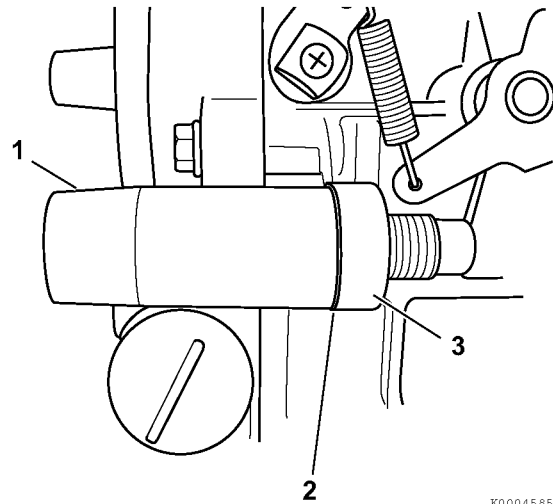

Figure 7-27
13. Install the new fuel limiter tamper resistant cover (1, **Figure 7-27**). Do not reuse the old cover. Use a soft-faced hammer to “tap” the tamper-resistant cover into place. When properly installed, there should not be a gap (2, **Figure 7-27**) between the tamper-resistant cover and the cylinder block mounting boss (3, **Figure 7-27**).